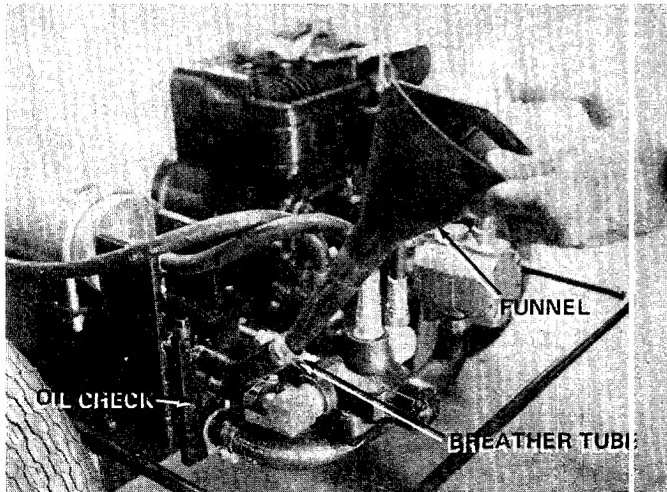
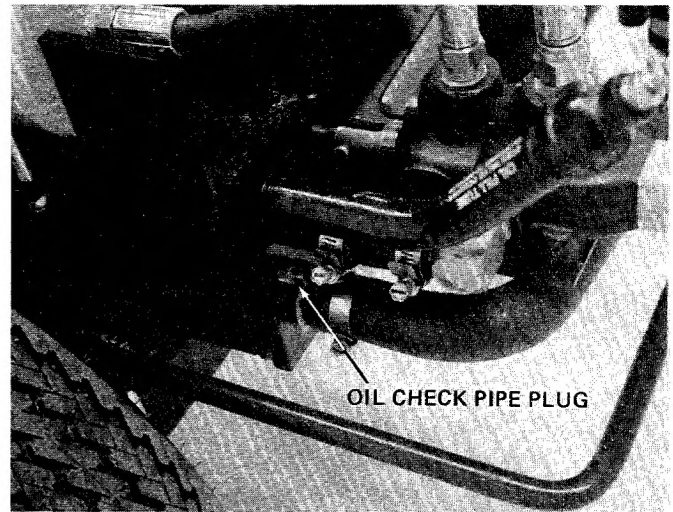

FIGURE 8
FIGURE 15
3. Fill reservoir tank on log splitter with the unit resting on the beam. Remove the breather plug from breather tube. Remove the plug from the oil check hole. See figure 8. Pour approximately 2-1/2 to 3 gallons of **Dexron automatic transmission fluid** into breather tube. Oil level is correct when oil starts out of oil check hole. Replace oil check plug and breather plug.
Check oil in log splitter reservoir before every use. See figure 15.
2. Remove check pipe plug in rear of beam. See figure 15. If oil starts to come out of check pipe plug hole, oil level is correct. IF IT DOES NOT, add oil to breather tube (see figure 8) until oil starts out.
5. Remove the breather plug from breather tube. See figure 8. Pour approximately 2-1/2 gallons of Dexron transmission fluid ONLY into breather tube.